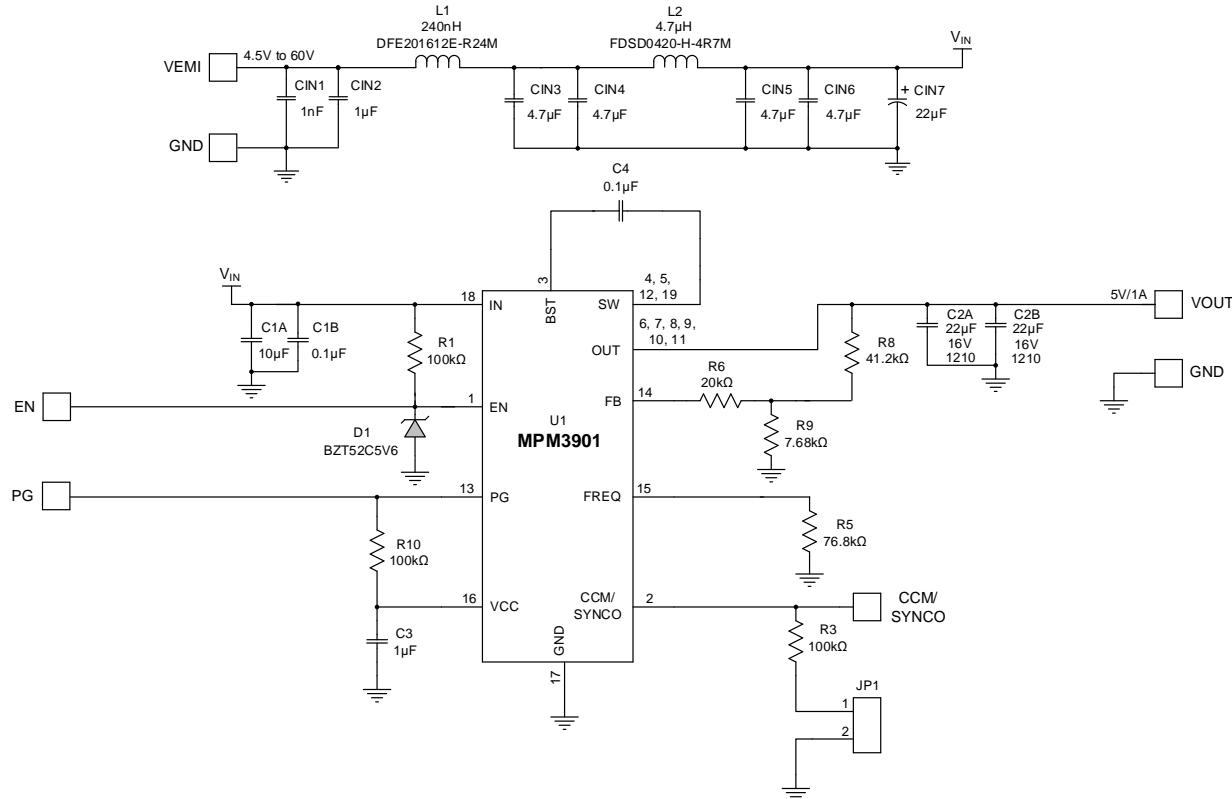

Figure 11: Typical Application Circuit (VOUT = 5V, fsw = 400kHz with EMI Filters)
10) The recommended PCB layout is based on Figure 11 on page 32.